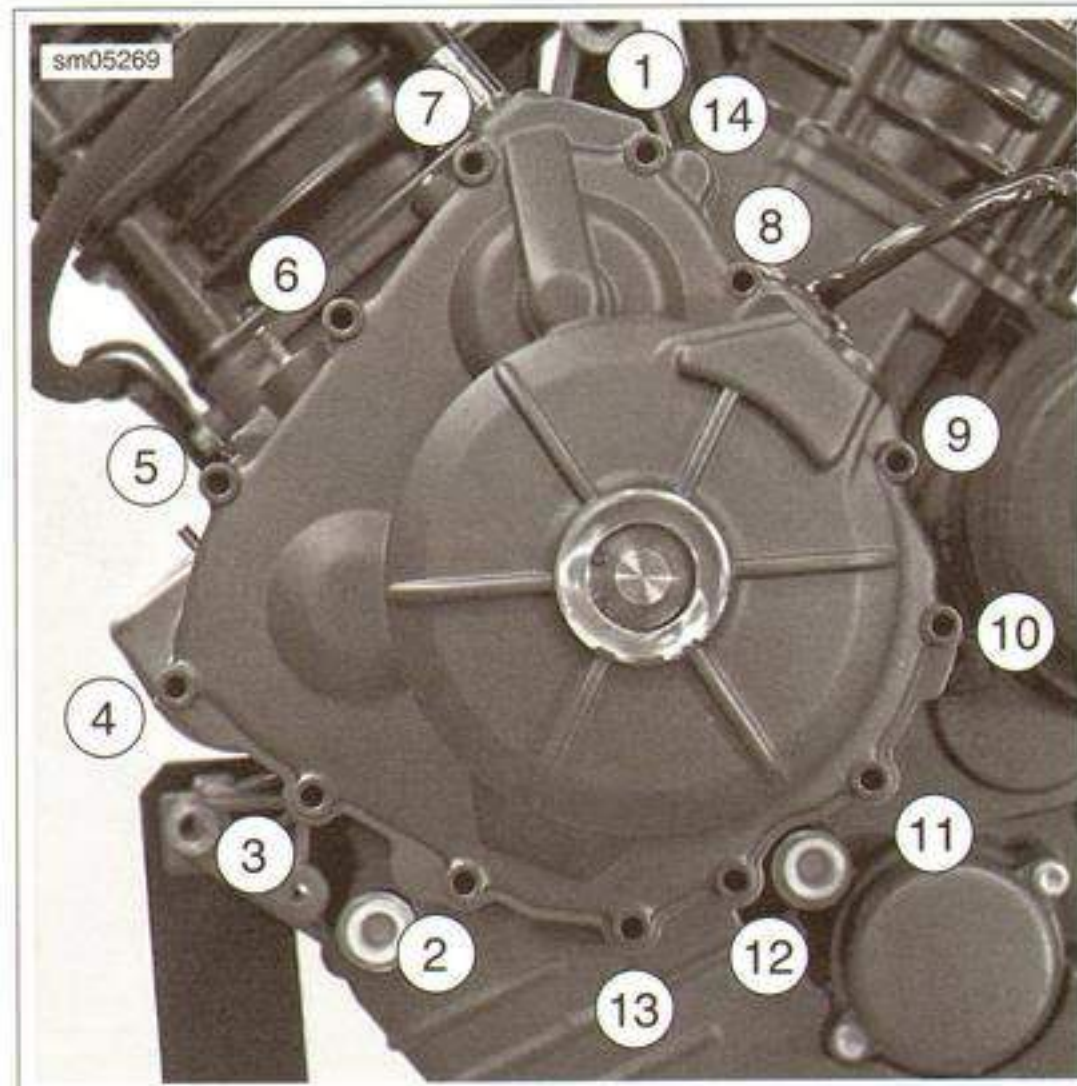

Figure 3-148. Ignition Cover Torque Sequence
8. See Figure 3-148. In sequence, tighten the cover fasteners to 11 Nm (97 in-lbs).